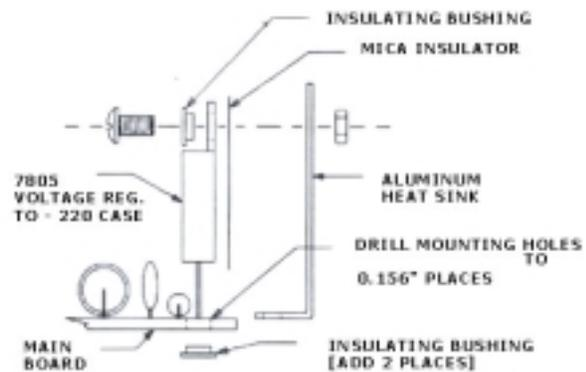

FIGURE 2
4. Remove the screw which attaches the voltage regulator heat sink to the voltage regulator. (see figure 2)
5. Using a 5/32" drill enlarge the two main board attaching screw holes pi (see figure 2) making sure that the drill removes all of the conductive trace material between the upper and lower layer of the board. If any conductive material remains in the hole remove any remainder with a bearing scraper or exacto knife.
6. Reassemble the unit installing the insulator bushings and mica insulator as shown in figure 2. A non conductive grease or adhesive may be used to hold the insulator bushings in place during assembly.